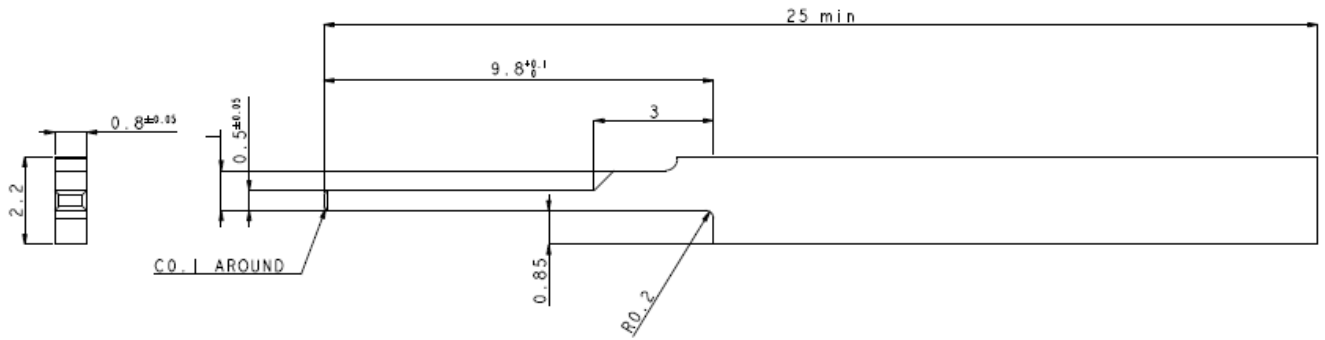

Figure 20
- See Figure 20 for tool detail. Extraction tool is not supplied by TE.